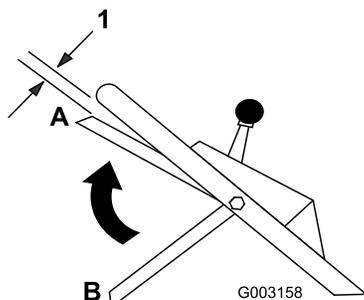

Figure 16
9. Lift the blade control bar up to about one inch (2.5 cm) below the handle; refer to position A in Figure 16.